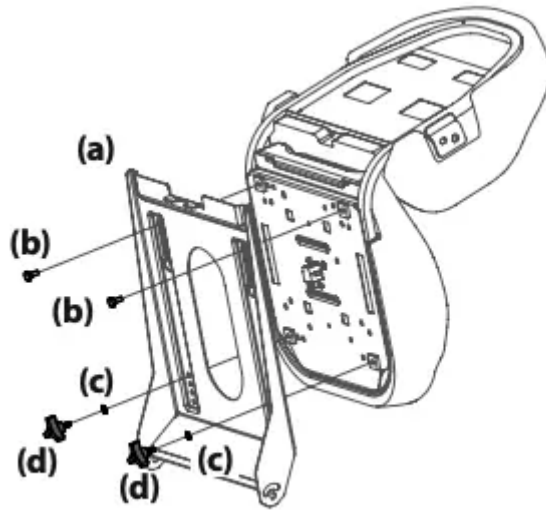

Figure 4
a. For a Knob Adjust seat insert bolts (b) in the rear holes and lock washer (c) and knobs (d) in the front. Tighten securely. See Figure 4.